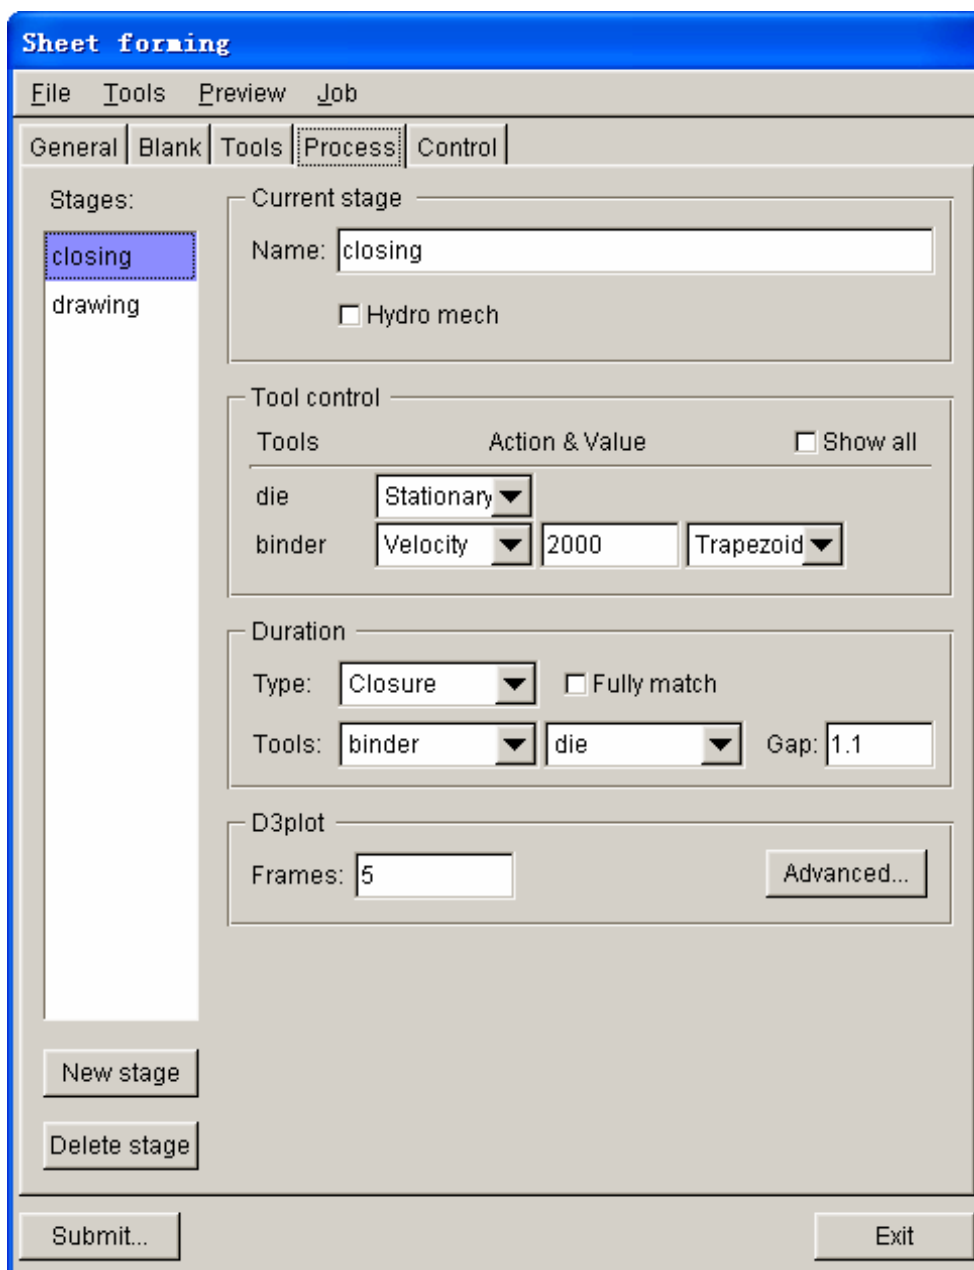

Figure 2.34 Closing definition interface
1. Select **closing** process from the list located at the left side of interface to be the current process. See Figure 2.34.
2. Verify the default setting of **closing** stage is similar to Figure 2.34.